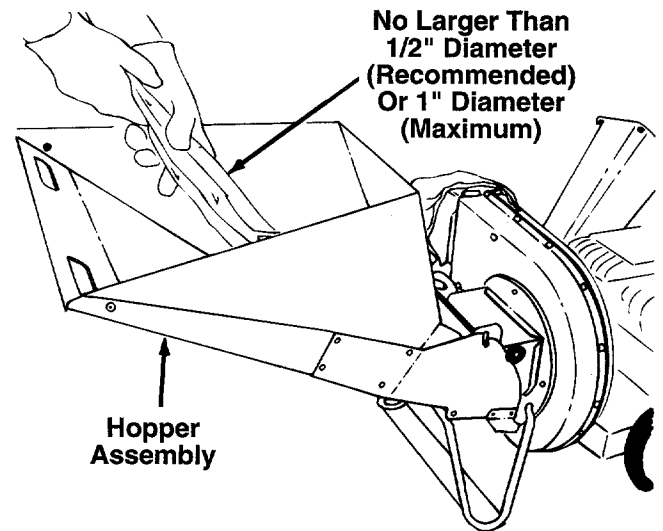

FIGURE 7.
- Leaves and small branches up to 1/2" diameter (recommended) or 1" diameter (maximum) can be fed into the hopper assembly when it is in the raised position. See figure 7. If it becomes necessary to push material into the chipper-shredder, use a small diameter stick—NOT YOUR HANDS. The stick should be small enough that it will be ground up if it gets into the impeller assembly